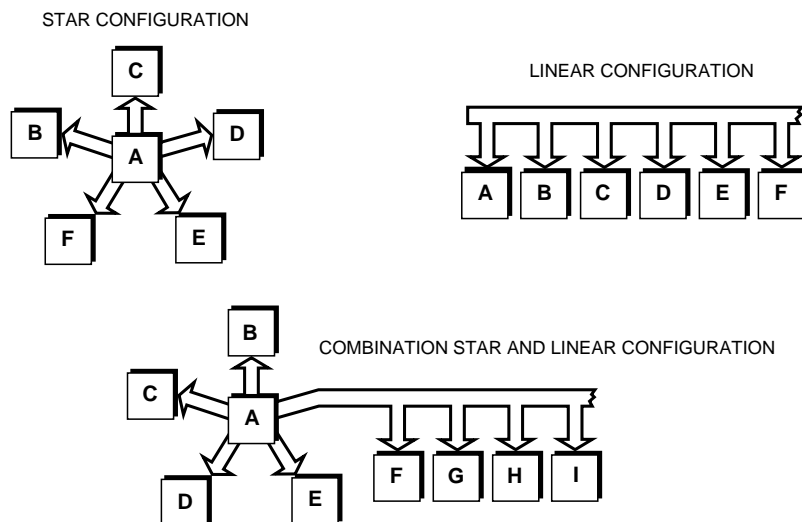

Figure 1-1. GPIB devices may be connected in star, linear, or combination star/linear configurations
- Devices may be connected in a star or linear configuration, or a combination of star and linear configuration (see Figure 1-1).